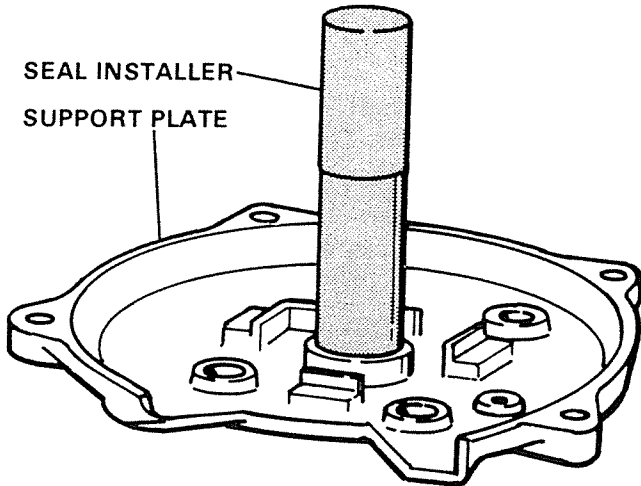

Figure 20. Installing Top End Seal.
- D. Press new seal in with sealing lip down until seal bottoms out. Figure 20.